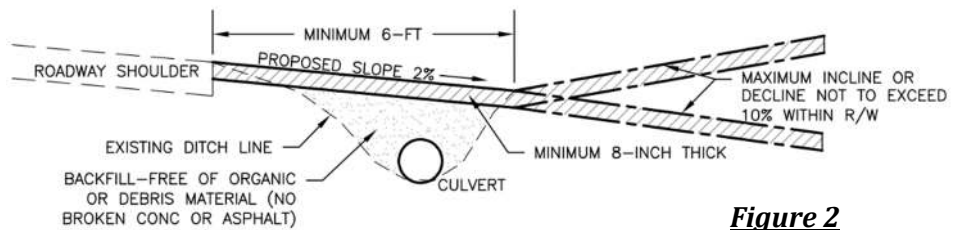

Figure 2
- Driveway Approaches shall be a 2% minimum slope down / away from the road shoulder so that water runs away from the road and toward the ditch line, as shown in **Figure 2**.